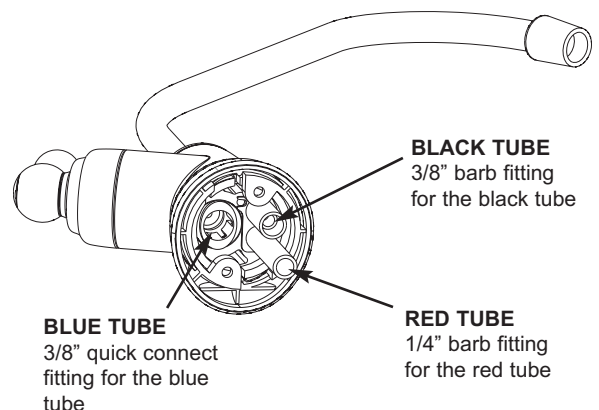

FIG. 15
- C. Insert all the way onto the 1/4" faucet barb fitting on faucet. See Figs. 15, 18 & 19.